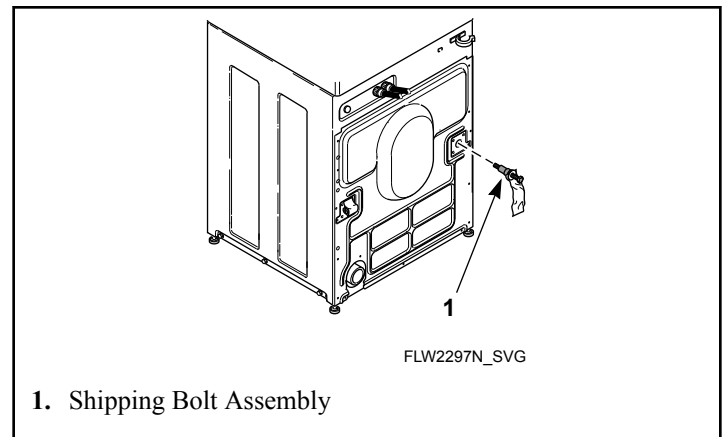

Figure 38
7. Insert shipping bolt assemblies into each shipping bolt hole. Refer to *Figure 38*.